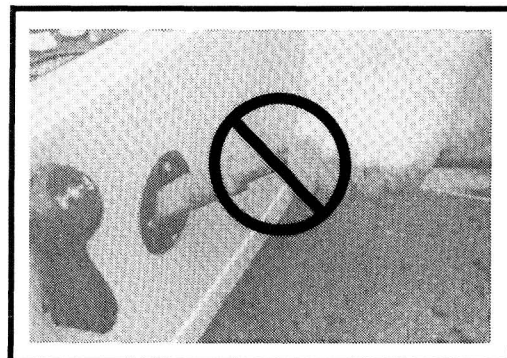

Figure 19
**To disconnect the charger plug from the vehicle receptacle, grasp the plug by the handle and pull the plug straight out of the receptacle. Do not pull on the cord (See Figure 19). Do not twist, rock or bend the plug.**